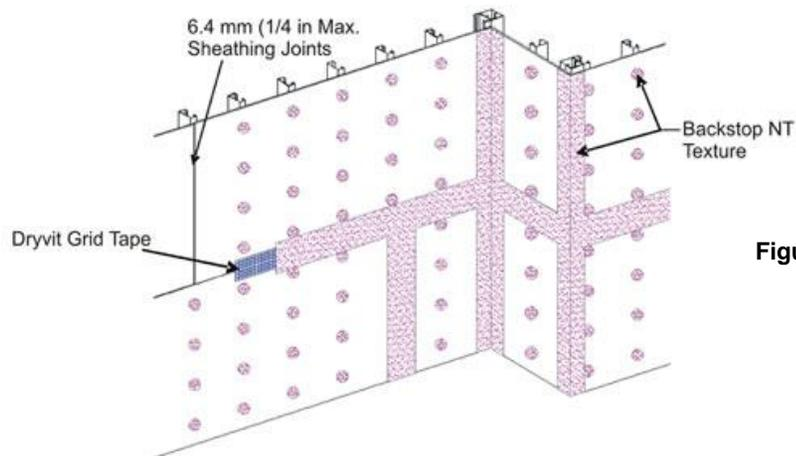

Figure 1
- 1) Apply Dryvit Grid Tape as described in Section IV.E.1 above. Mix the Backstop NTX - Texture material as described in Section I. Using a stainless-steel trowel or spatula, apply a layer of Backstop NTX - Texture over the Dryvit Grid Tape and spot all fastener heads – Figure 1.